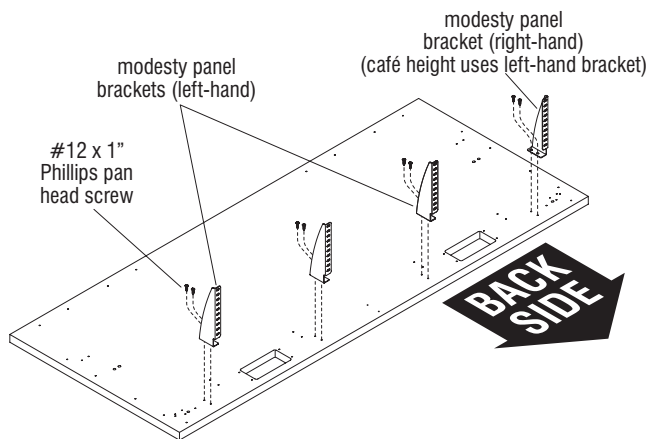
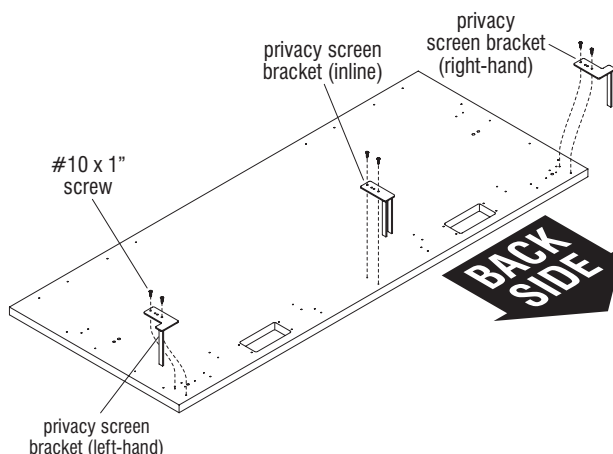
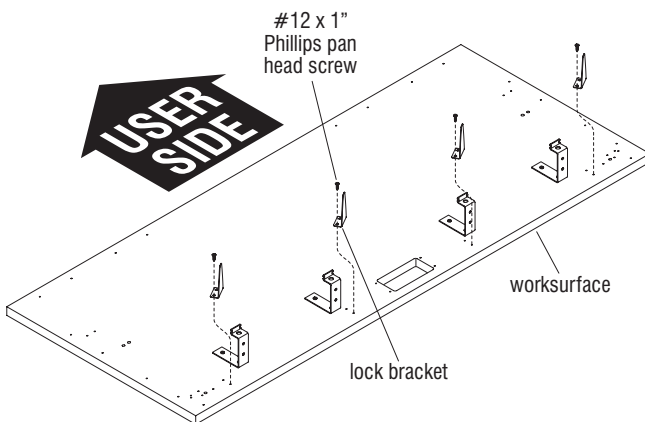
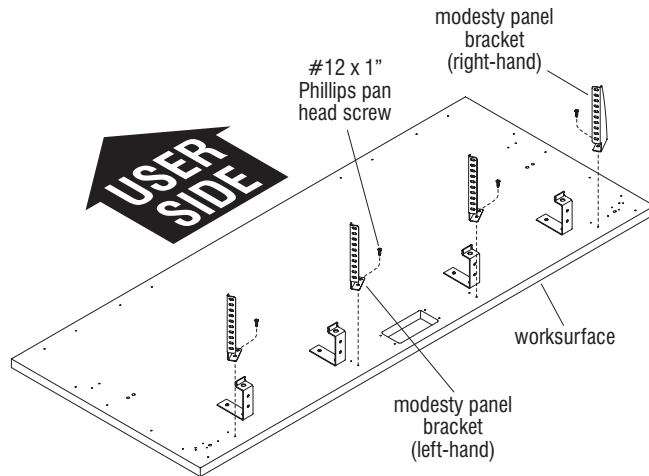

Figure 1 - Single-Sided Fixed Benching, with Modesty Panels (Pattern Electrical or with No Power)
Figure 3 - Single-Sided Fixed Benching, with Privacy Screens (Pattern Electrical or with No Power)
Figure 9 - Single-Sided Fixed Benching with Hardwired Electrical & No Modesty Panels
Figure 10 - Single-Sided Fixed Benching with Hardwired Electrical & Modesty Panels
Important: If the Connection Zone being assembled includes modesty panels or privacy screens with Pattern electrical, or no power, continue following the instructions on this page (Figures 1, 2 & 3). If the Connection Zone unit includes Pattern electrical, or no power but does not include privacy screens or modesty panels, proceed to the instructions on page 15. If the Connection Zone unit includes 10-wire electrical, proceed to the instructions on pages 10 & 11 and pre-assemble electrical and modesty panel brackets or privacy screen brackets before installing worksurfaces to legs and beams (Figures 4 & 5). If the Connection Zone unit includes hardwired electrical, proceed to the instructions on page 13 and pre-assemble hardwire junction box mounting brackets and lock brackets or modesty panel brackets before installing worksurfaces to legs and beams (Figures 9 & 10).
Important: Café height tables will not use the one "right-hand" modesty panel bracket as illustrated in Figure 1 on this page. Only left-hand modesty panel brackets will be specified as illustrated in Figure 3, page 40.
1. Determine the correct mounting locations of the right- and left-hand modesty panel brackets at the pre-drilled locations on the underside of the worksurface. Secure each bracket using two #12 x 1" Phillips pan head screws (Figures 1 & 2).
2. If the Connection Zone being assembled includes privacy screens, privacy screen brackets must be installed at this time. Locate the pre-drilled mounting holes for the right-, left-hand & inline (if specified) privacy screen brackets at the underside of the worksurface. Secure each bracket using two #10 x 1" screws as illustrated (Figure 3).
2. If modesty panels are required, go now to page 14, follow all notes and instructions (Figure 10). If no modesty panels are specified, reference instructions below on this page to install required lock brackets (Figure 9).
Note: When electrical hardware is installed under a worksurface and no modesty panels are specified, "lock brackets" must be installed to help keep the power access door in position. The brackets are to be rotated as illustrated (Figure 9) and installed at this time using only the rear-most screw/mounting location. This allows for clearance to install the power access doors which will be installed at a later step.
1. To determine the correct mounting locations, position the power access door lock brackets over pre-drilled holes at underside of worksurface. Rotate the brackets such that only the rear-most bracket mounting hole is over the pre-drilled rear hole in the worksurface and attach all brackets not quite snug to worksurface with one #12 x 1" Phillips pan head screw (Figure 9).
Note: When modesty panels are to be installed under a worksurface that includes 10-wire electrical, the brackets are to be rotated as illustrated (Figure 10) and installed at this time using only the rear-most screw/mounting location. This allows for clearance to install the power access doors which will be installed at a later step.
1. To determine the correct mounting locations, position left-hand modesty panel brackets over pre-drilled holes at underside of worksurface. Rotate the left-hand brackets such that only the rear-most bracket mounting hole is over the pre-drilled rear hole in the worksurface and attach bracket almost snug to worksurface with one #12 x 1" Phillips pan head screw. Repeat the process for all remaining left-hand brackets, then install the final right-hand bracket in the same manner (Figure 10).